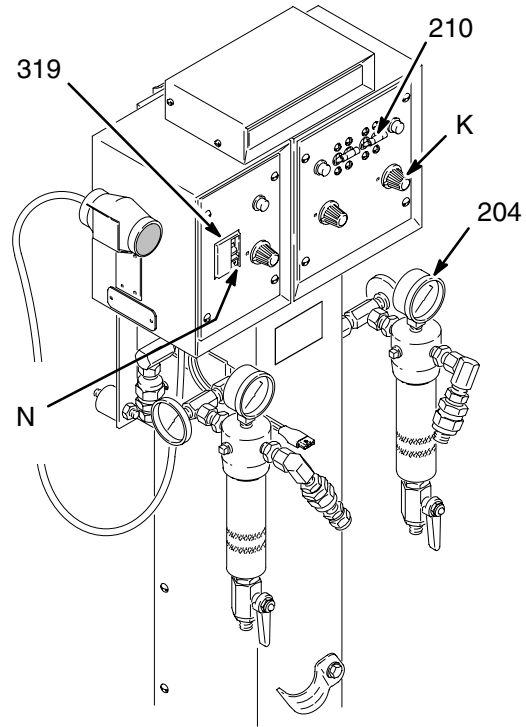

Fig. 8
2. Set all three Temperature Set dials (K) to **CAL**. See Fig. 8.
3. Turn the circuit breakers (210 and 319) to **I** (ON). See Fig. 8.
5. The heater lamps should blink within 10 seconds after turning on the circuit breakers. With fluid flowing only, check the heater thermometers (204) regularly and manually adjust the fluid temperature as needed. See Fig. 8.
7. If using a heated hose control, test the Ground Fault Interrupter (GFI) daily. To test, depress the button (N). See Fig. 8. If the circuit breaker shuts off, the GFI is working properly.